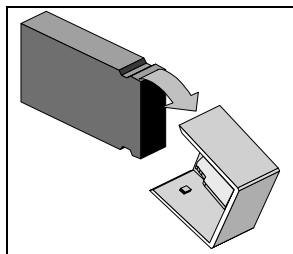

Figure 1-2 Button Cover
- Remove ejection button cover. To remove the cover, grasp the front and back sides of the button cover between your thumb and forefinger, squeeze the covers lightly, and carefully rock the cover off of the shaft in the direction of the arrow in Figure 1-2.
- Warning: The button cover has nubs that grip grooves in the top and bottom sides of the shaft, as illustrated in Figure 1-2. Grasping the button by the top and bottom sides tends to increase the effectiveness of the nubs, increasing the force required to remove it. Excessive force can pull the shaft completely out of the ejector mechanism, requiring depot repair of the monitor.*